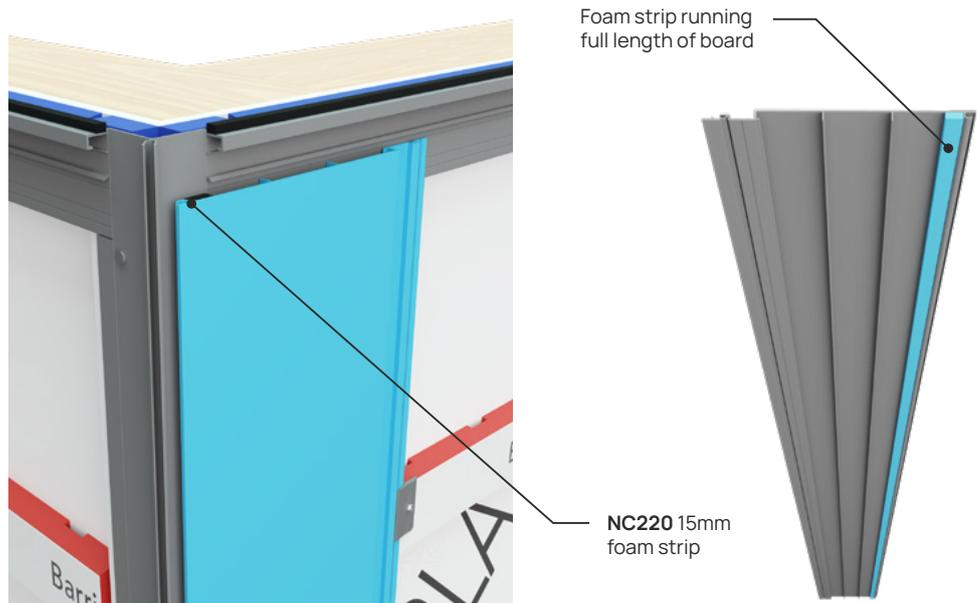

FIGURE 33. LOCATION OF 15MM FOAM STRIP
4. Fit 15mm Foam Tape (NC220A) full length down the back face leading edge. - See Figure 33.